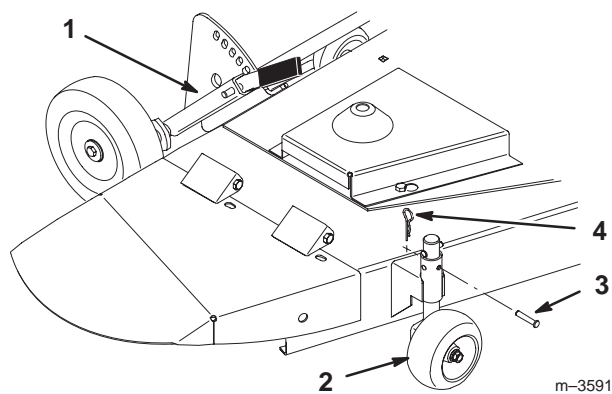

Figure 3
1. Place the height-of-cut lever on the mower to the position for lowest cut (Fig. 3).
3. Set the height of the two front mower wheels and turn the wheels parallel to the mower by removing the clevis pins and hairpin cottes, then turning and raising or lowering the wheels until you can put the clevis pins and hairpin cottes in the third position from the top (Fig. 3).
2. Ensure that the front mower wheels are turned parallel to the mower and the rear center wheel is lowered (Fig. 3).